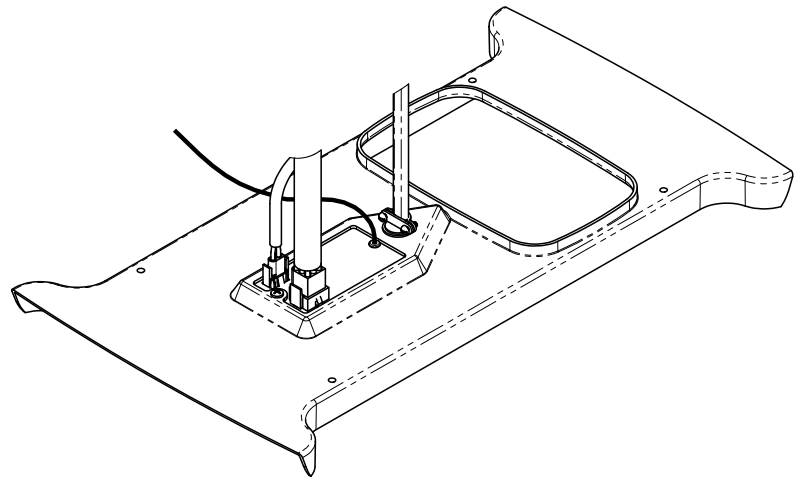

FIGURE 10
- C. Raise the ceiling assembly chute and insert the supply wiring through the cable clamp and into the wiring box so that 4-6" of supply conductor is inside the box. Secure the cable clamp over the supply wire sheath so that no movement is possible (See Figure 10).
- F. Plug the air conditioner electrical conduit into the 9 position receptacle as shown in Figure 10.
- G. If the optional heater accessory package is being installed, remove the cover from the 2 position receptacle and plug the heater cord into receptacle as shown in Figure 10.